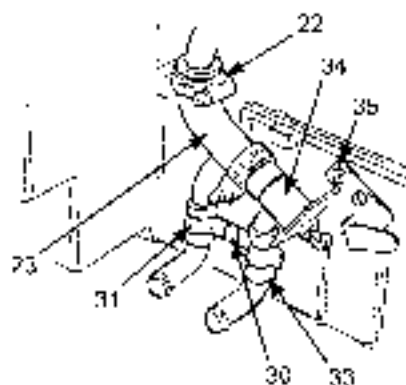

Figure-13
Do not release the rod clamp (27) and remove the rod (6) other than when replacing the actuator. If it has been removed, check to see the lever (t) is at the location indicated in Figure-13.
- (1) Turn the power ON and set to the **AgAir Blow** mode, one green and one red Operation Panel LED will glow. Wait for 10 seconds, and then check to see if the lever (t) is at the location shown in Figure-13.
- (2) Turn OFF the power.
- (3) Open the rod clamp (7) to release the rod (6).
- (4) Take off the tapping screw (30) to remove the retainer (31).
- (5) Take off 3 tapping screws (35)
- (6) Loosen 2 hose clamps (22) and remove the heater hose (23) and remove the water valve (34)